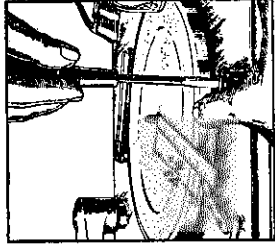

Figure 3—Adjusting elevator pad
- After the instrument has completed one record changing operation, a ten inch record should extend about three-quarters way over each elevator pad. If this condition does not exist, an adjustment can be made by means of the screws that hold the pads in position. A pair of pliers heavily padded with cloth or other soft material should be used to hold the elevator shafts while loosening and tightening the screws. The distance from the closest part of either pad to the edge of the spindle is approximately $\frac{1}{16}$ ". Figure 3 shows the method of making this adjustment.